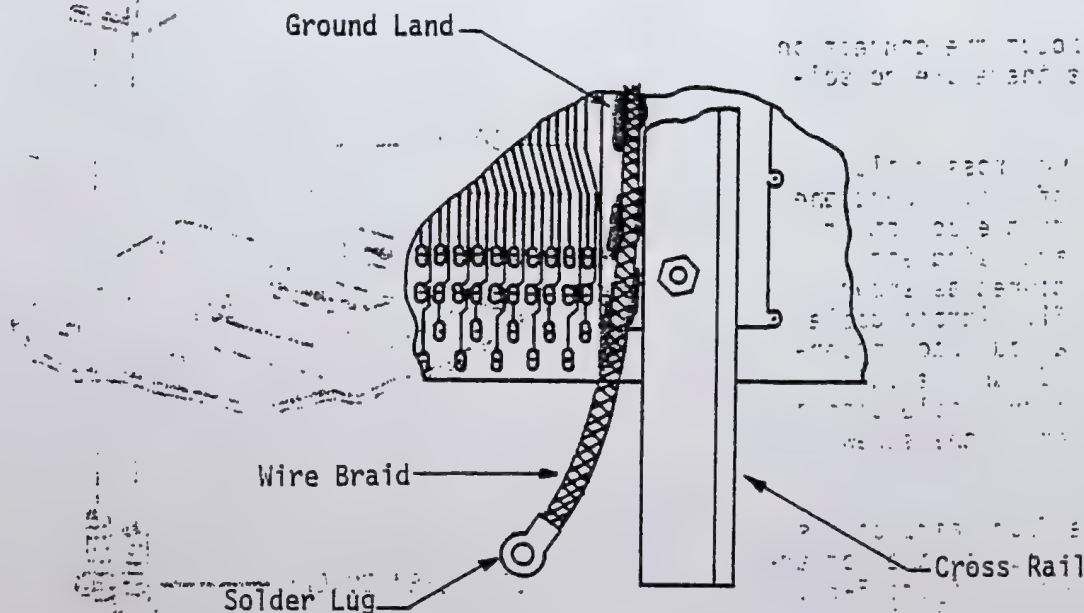

Figure 5-63. Chassis Ground Connection
(Figure 5-63)
To insure a good ground connection between the motherboard and the chassis, two ground wires will be run from the ground land on the foil (bottom) side of the motherboard to the side rails of the mainframe. Refer to Figure 5-63 and make the ground connections according to the following instructions.
3. Place the braid on the ground land along side the cross rail so that the lug and about three inches of braid hang over the side, as shown in Figure 5-63. Solder the remaining three inches to the ground land. It may be helpful to first "tack" the braid in place with small amounts of solder and then, using the flat of the soldering iron to heat the braid, make a solid solder connection over the entire three inches. Make sure there are no solder bridges to the adjacent lands on the board. The lugs will be attached to the side rails of the mainframe after the motherboard has been installed (Paragraph 5-73).